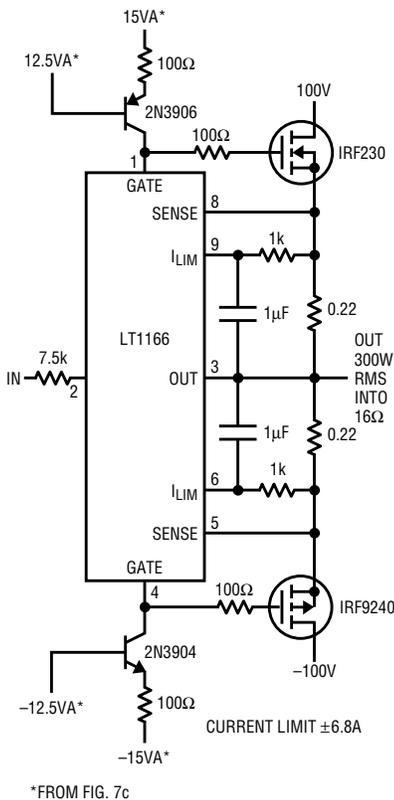

Figure 7a. ±100V, 6A "power slice"
In the event that you don't live in California, you might need the circuit shown in Figures 7a-7c, the 1.8kW shaker-table driver/audio amplifier. In Figure 7a, we develop a slice of power by connecting the LT1166 to two power MOSFETs, two current sense resistors and two current
sources. The power slice shown in Figure 7a will deliver 300W of sine wave power into 16Ω when powered from ±100VDC. The MOSFETs and/or the sense resistors can be increased or decreased to get output power in almost any flavor.
in Figures 7a, 8a and 8b. This circuit starts at 300W (or less if you use smaller FETs and bigger resistors in Figure 7a) and can be stacked up to any desired power level. With this circuit, you could easily build a ringer capable of ringing the phones of every U.S. politician simultaneously (not that this would do any good).
*TO FIG. 7A